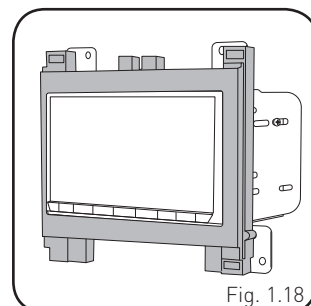

Fig. 1.18
18. Place the bezel onto the radio and secure it with the six Phillips screws provided with the CHA1. (Fig. 1.18, 1.19)